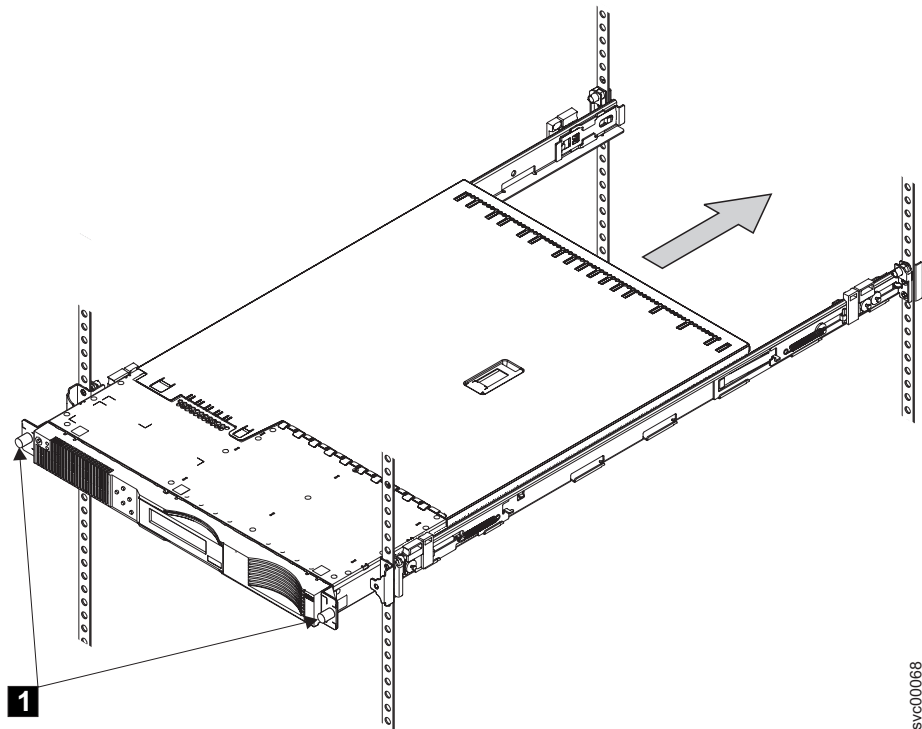

Figure 61. Attaching the SAN Volume Controller 2145-4F2 with the front screws
2. For the SAN Volume Controller 2145-8F2 or SAN Volume Controller 2145-8F4, latch the two latches on the front of the rack to attach the SAN Volume Controller to the rack. For the SAN Volume Controller 2145-4F2, screw in the two front screws **1**. See Figure 61 on page 279.
**Note:** The front of the SAN Volume Controller 2145-8F2 or SAN Volume Controller 2145-8F4 rail assembly looks different from the front in Figure 61 on page 279.